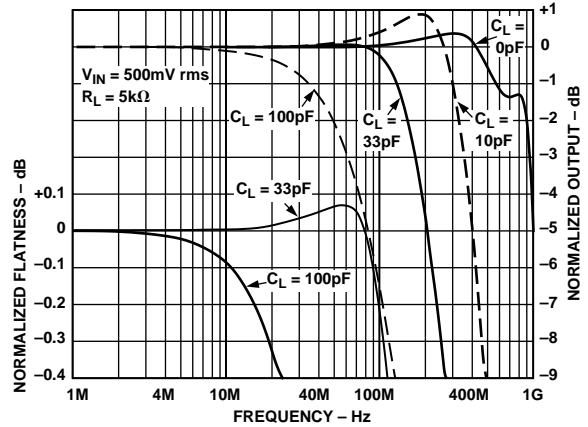

Figure 19. Frequency Response vs. Capacitive Load
- 4Decreasing RL lowers the bandwidth slightly. Increasing CL lowers the bandwidth considerably (see Figure 19).